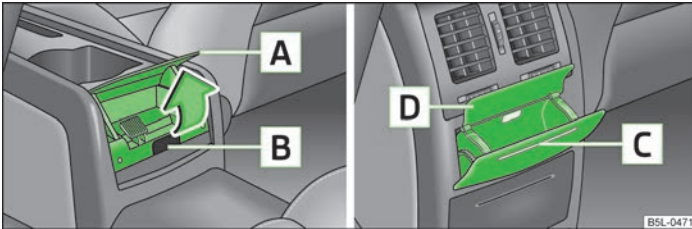

Fig. 65 Rear ashtray - low centre console/high centre console
- Grasp the ashtray cover at the lower edge **A** » Fig. 65 and fold it open in the direction of arrow.
- Grasp the ashtray at the handle **B** » Fig. 65 and remove from above.
- Press on the top part of the ashtray cover in area **C** » Fig. 65.
- Grasp the ash tray insert at the cover **D** » Fig. 65 and remove.